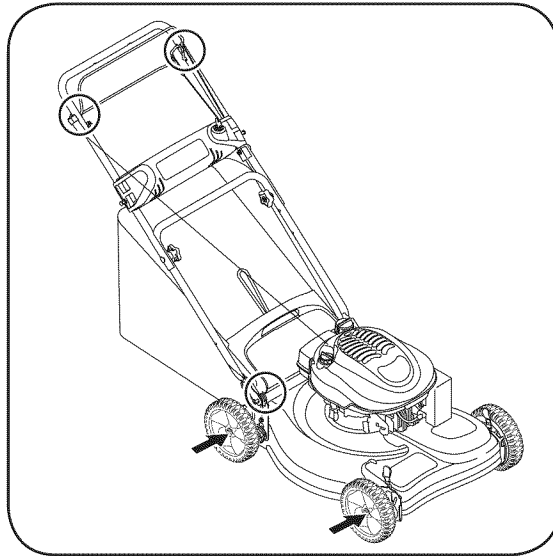

Figure 3
1. Lubricate pivot points on the blade control at least once a season with light oil. The blade control must operate freely in both directions. See Figure 3.
2. Lubricate the wheels at least once a season with light oil (or motor oil). If wheels are removed for any reason, lubricate surface of the pivot arm and inner surface of the wheel with light oil. See Figure 3.
3. Lubricate the torsion spring and pivot point on the rear discharge door periodically with light oil to prevent rust. See Figure 3.